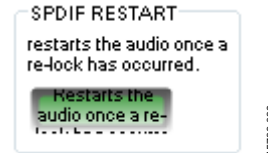

Figure 39. Activating the SPDIF\_RESTART Register
- c. Enable the **SPDIF\_RESTART** register by clicking **Do not restart the audio once a re-lock has occurred** in the **SPDIF RESTART** box. When this button is clicked, the text displayed on the button changes to **Restarts the audio once a re-lock has occurred** and the button color changes from red to green (see Figure 39).